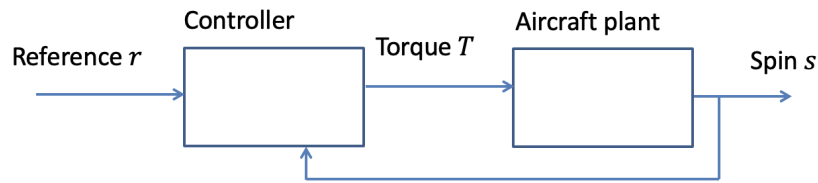

Figure 2: Block diagram of the proportional controller for the aircraft's yaw rate. Fill in the controller and plant equations.
- (f) Complete the block diagram in Figure 2 by writing the corresponding equations in the **controller** and **plant** boxes.